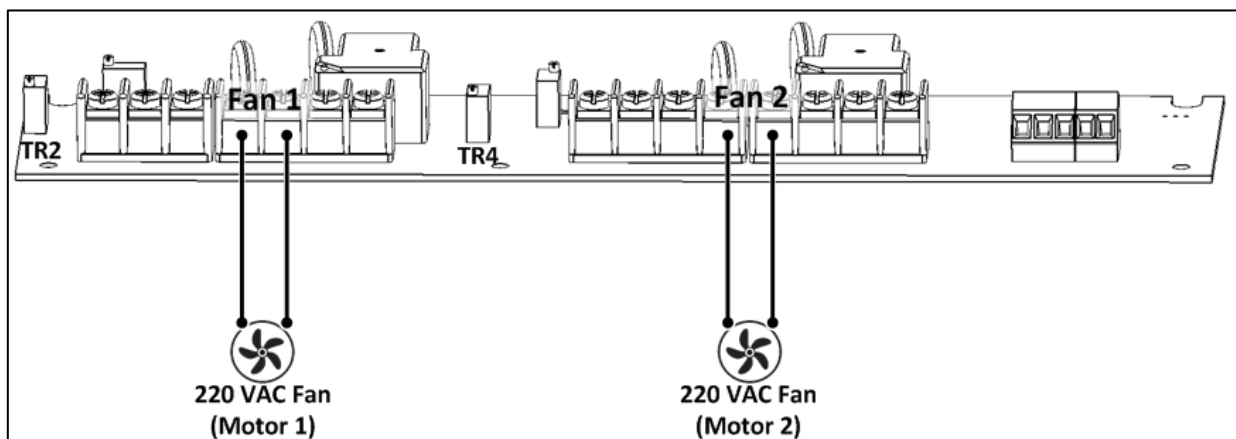

Figure 45: Variable speed card to fan wiring
2. Wire the Motor 1 and / or Motor 2 to the Variable Speed Card Fan 1 / Fan 2 ports, respectively (Figure 45).